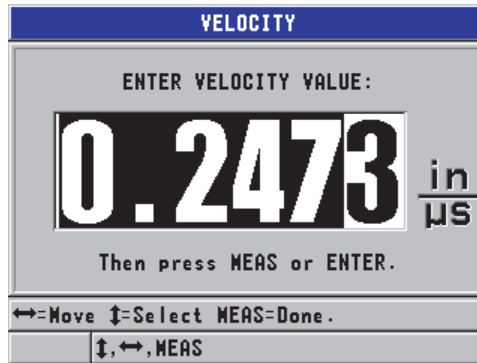

Figure 5-9 Entering a known material sound velocity
2. In the **VELOCITY** screen (see Figure 5-9 on page 62), use the arrow keys to edit the velocity to the known value.